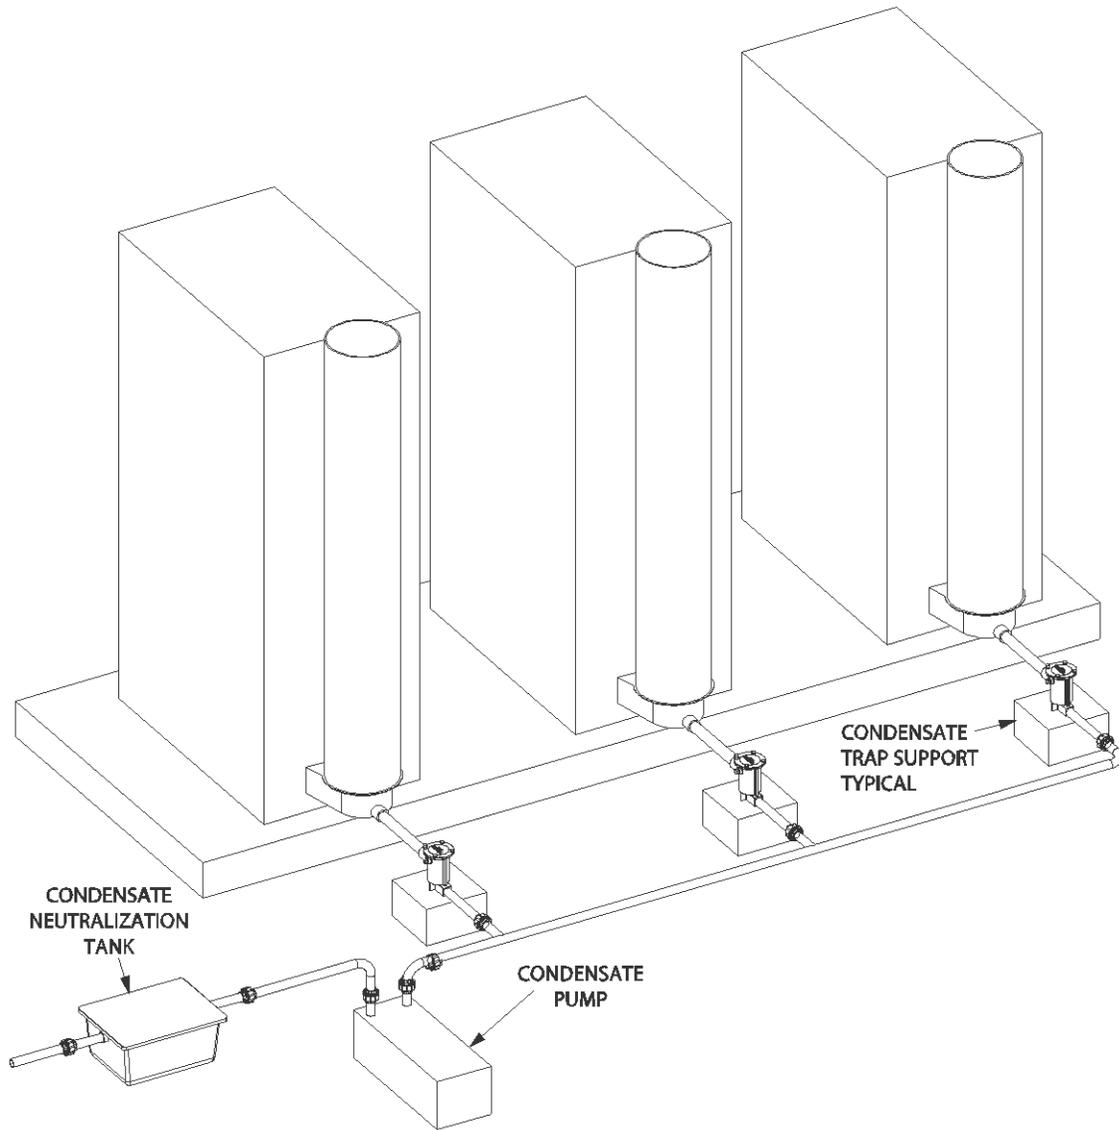

Figure 4: Multiple Boiler Units with Tank and Condensate Pump (P/N 89030)
- A condensate pump is used to lift the condensate from the appliance to the Neutralization Tank (Figure 4).
If there is no gravity drain available or if the boiler/water heater cannot be elevated to be higher than the Neutralization Tank, install a condensate removal pump designed for use on condensing boilers and furnaces (Figure 4).